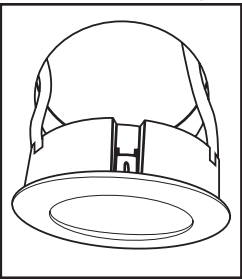
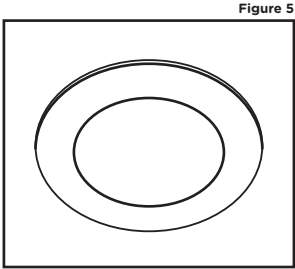

Figure 4
Figure 5
- Route cords of LED puck lights through the holes (**see Figure 4**) and press puck light into mounting hole until fully seated (**see Figure 5**).